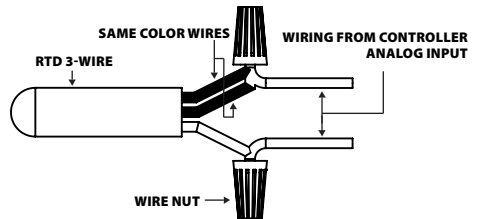

## FIGURE 6: TEMPERATURE WIRING
All thermistor type units are supplied with (2) flying lead wires, and all RTD's are supplied with (2) or (3) flying lead wires – see **FIGURE 6** (p. 3). The number of wires needed depends on the application.
**Note:** When using a shielded cable, be sure to connect only (1) end of the shield to ground at the controller. Connecting both ends of the shield to ground may cause a ground loop. When removing the shield from the sensor end, make sure to properly trim the shield to prevent any chance of shorting.
**Note:** If the controller requires a (2) wire input for a RTD, connect the (2) common wires (same color) together. If the controller requires (3) wires, use (3) individual wires - see **FIGURE 6** (p. 3).